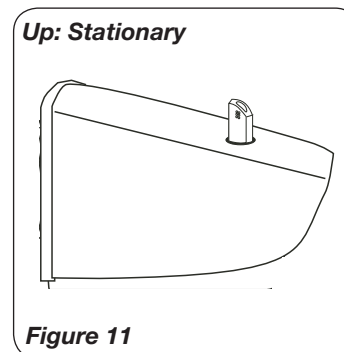

Figure 11
6. **OSCILLATION:** Push down oscillation knob on motor housing to make fan head move from side to side. (*Figures 11 and 12*)